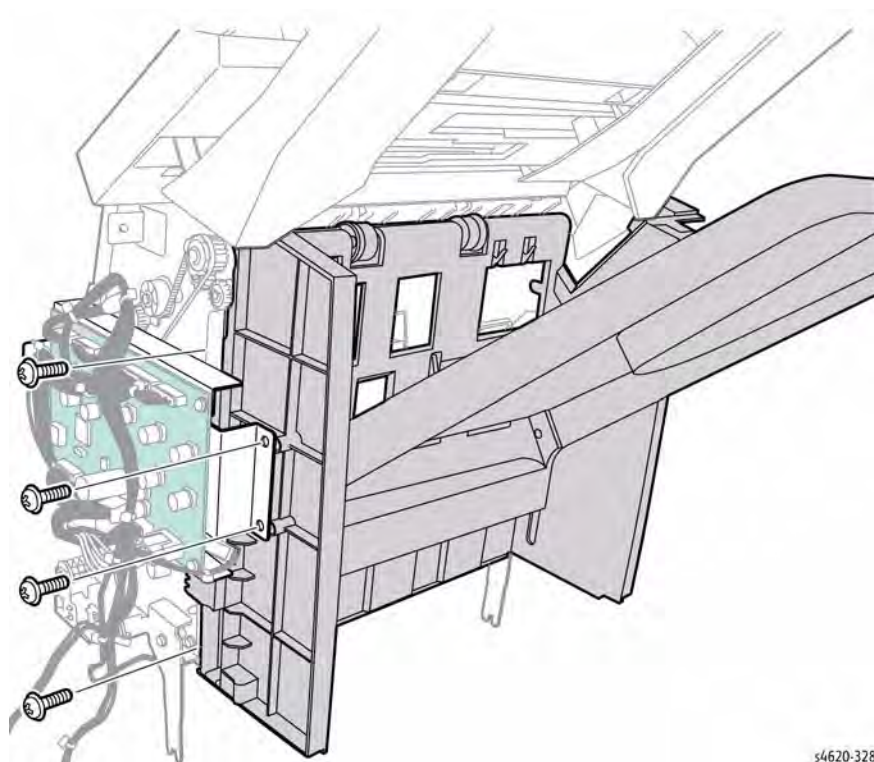

Figure 1 Remove 4 screws of the left side
5. Remove 4 screws (plastic) that secure the assembly to the Control Board bracket and Finisher chassis, Figure 1.